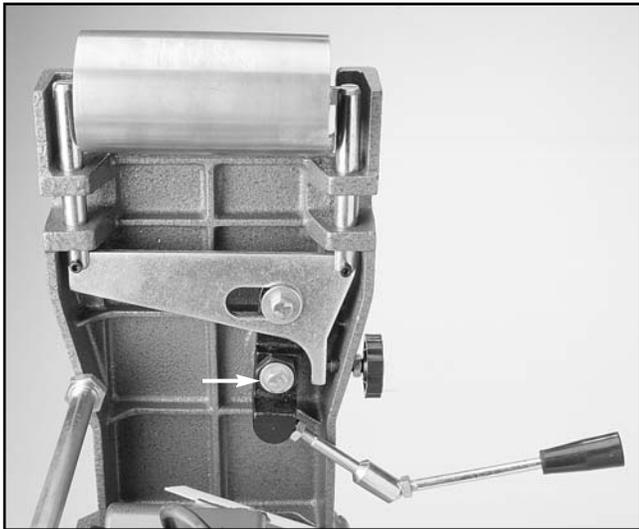

Figure 9.
1. With belt installed and quick release lever engaged, loosen Hex Bolt slightly. **Figure 9.** **Note:** Figure 9 is depicted with the belt removed for illustration purposes only. Normally steps 1-4 are done with the belt installed.